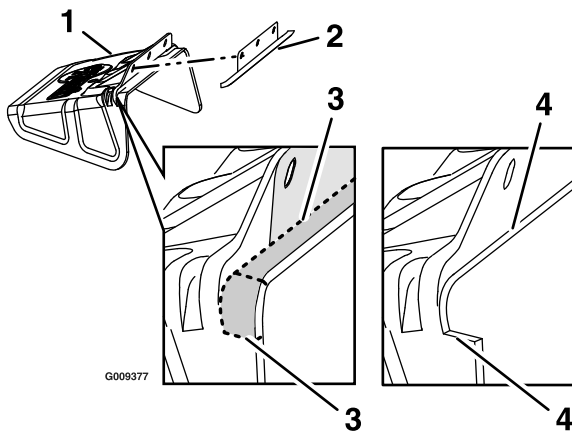

Figure 2
4. Use the template provided as a guide to cut off the lip of the discharge deflector. Fold the template and align the three slots on the template with the discharge deflector as shown in Figure 2. Cut along the bottom portion and the outer edges on each side of template to remove the lip.